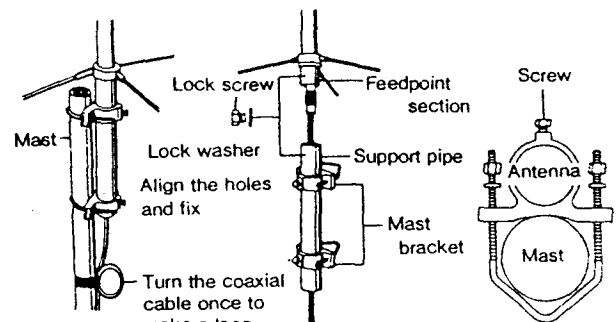

Fig. 2
9. Attach assembled antenna on a mast by taking whole balance into account as shown in Fig. 2. Turn the coaxial cable once to make a loop at right below the antenna to escape excess load from the cable.